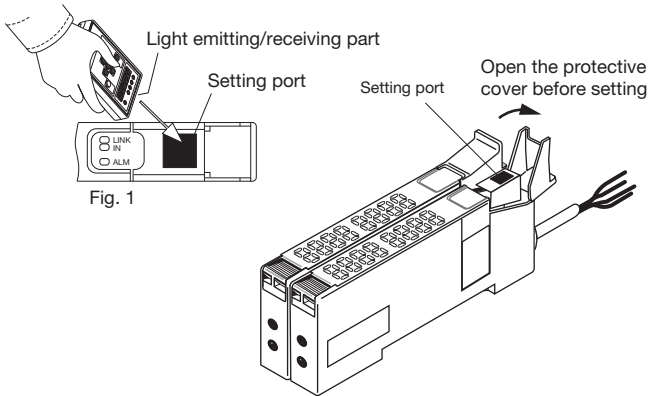

Fig. 1
2. This setting procedure is required for all terminals. After opening the protective cover of the terminal subject to setting, direct the address writer toward the setting port as shown in Fig. 1, and conduct setting. (Hold the light emitting/receiving part as close to the setting port as possible.) For a terminal that is not subject to setting, keep the protective cover closed.